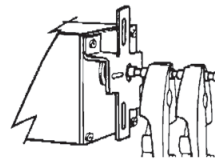

Figure 2
2. Position a suitable pair of pliers at either side of the marked groove. Hold the pliers very firmly at the control body side of the groove. With the other pair of pliers, carefully snap off the excess amount of shaft. (See Figure 2) **CAUTION:** DO NOT HOLD, OR PLACE ANY STRAIN ON THE BODY OF THE CONTROL.